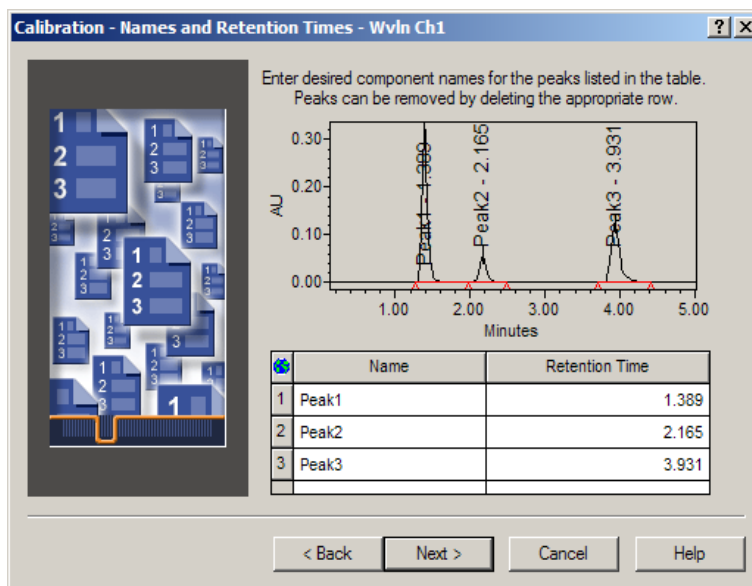

Figure 4-22 Names and Retention Times Page
10. Accept the default settings and click **Next**. A message indicates that channels require channel names in order to perform cross-channel internal standard processing. Click **No** in this dialog box. The Names and Retention Times page appears (Figure 4-22).